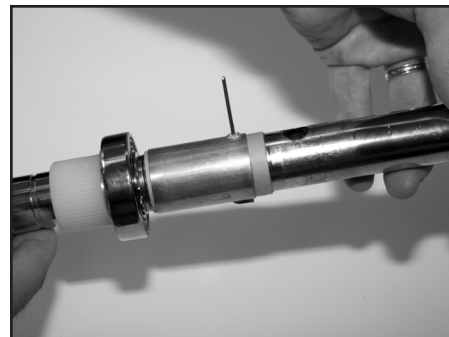

Figure 10
2. Secure the outer shaft contact ring with a new rivet supplied with service kit. Figure 10